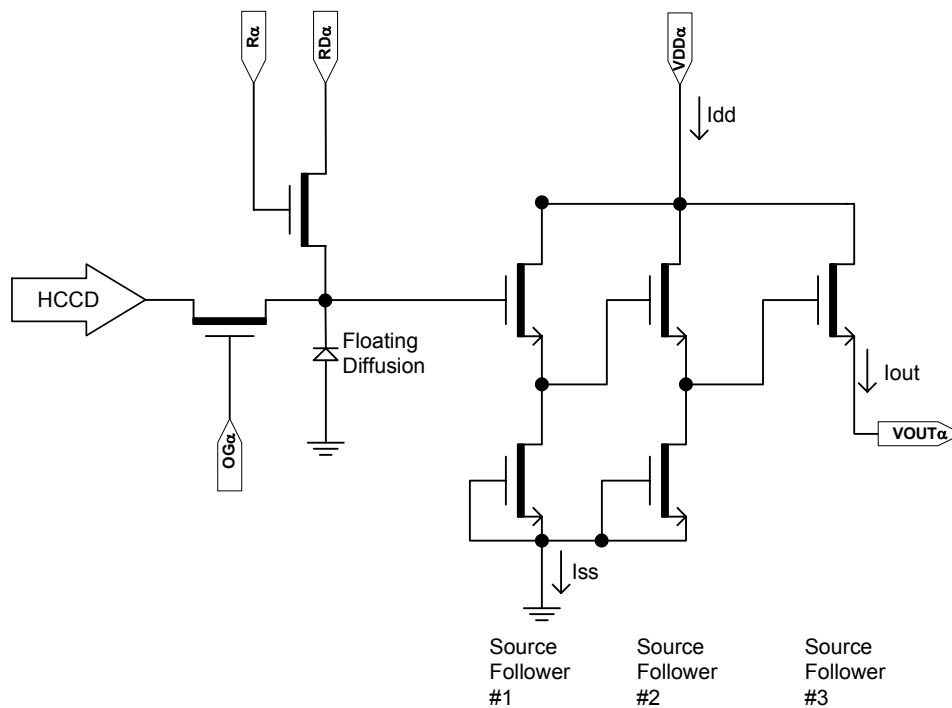

Figure 12: Output Amplifier
- The maximum DC current is for one output. $I_{dd} = I_{out} + I_{ss}$. See Figure 12.